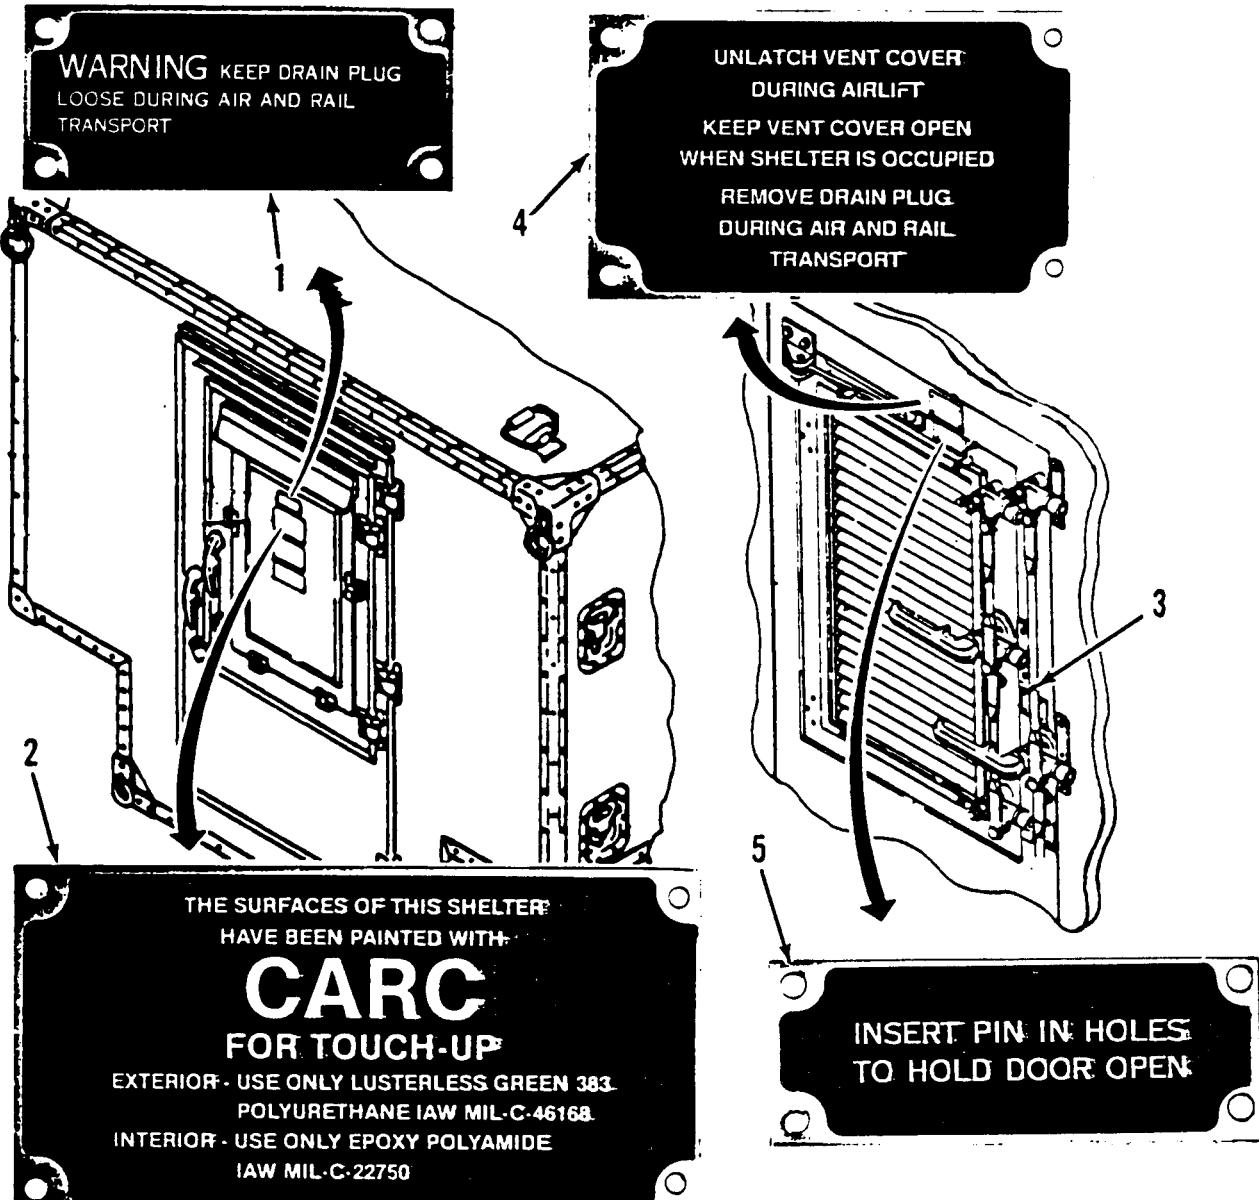

Figure 1-3. Instruction and Warning Plates.
**1-12. Instruction and Warning Plates. (Figure 1-3)**